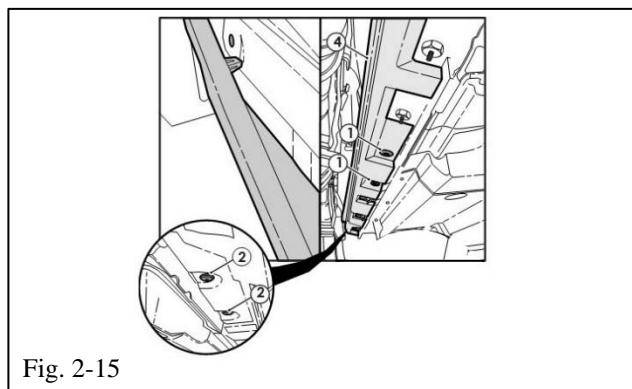

Fig. 2-15
(t) Reinstall with (2) of the previously removed plugs (1), 2 push pins (2), and 2 screws (4) (Fig. 2-15).